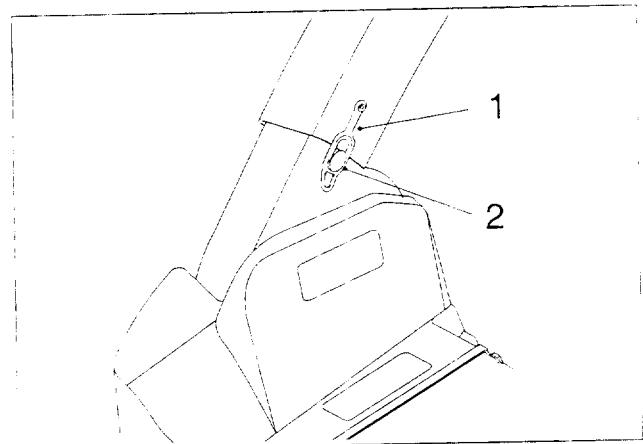

Figure 9
2. Hook the rubber latch onto the blower knob (Fig. 9).